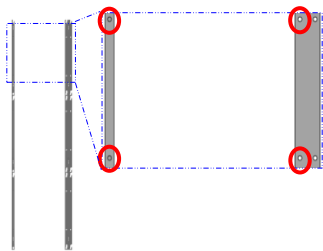

Fig1. Check the Hole
③ Install ② Bracket Middle.
- ※ First, check the Hole to fix the ③ JIG. [Fig.1]